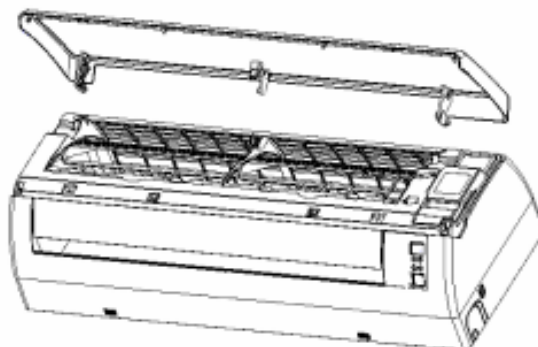

Fig. 7
- (4) Remove the front panel from the unit. (Fig.7)